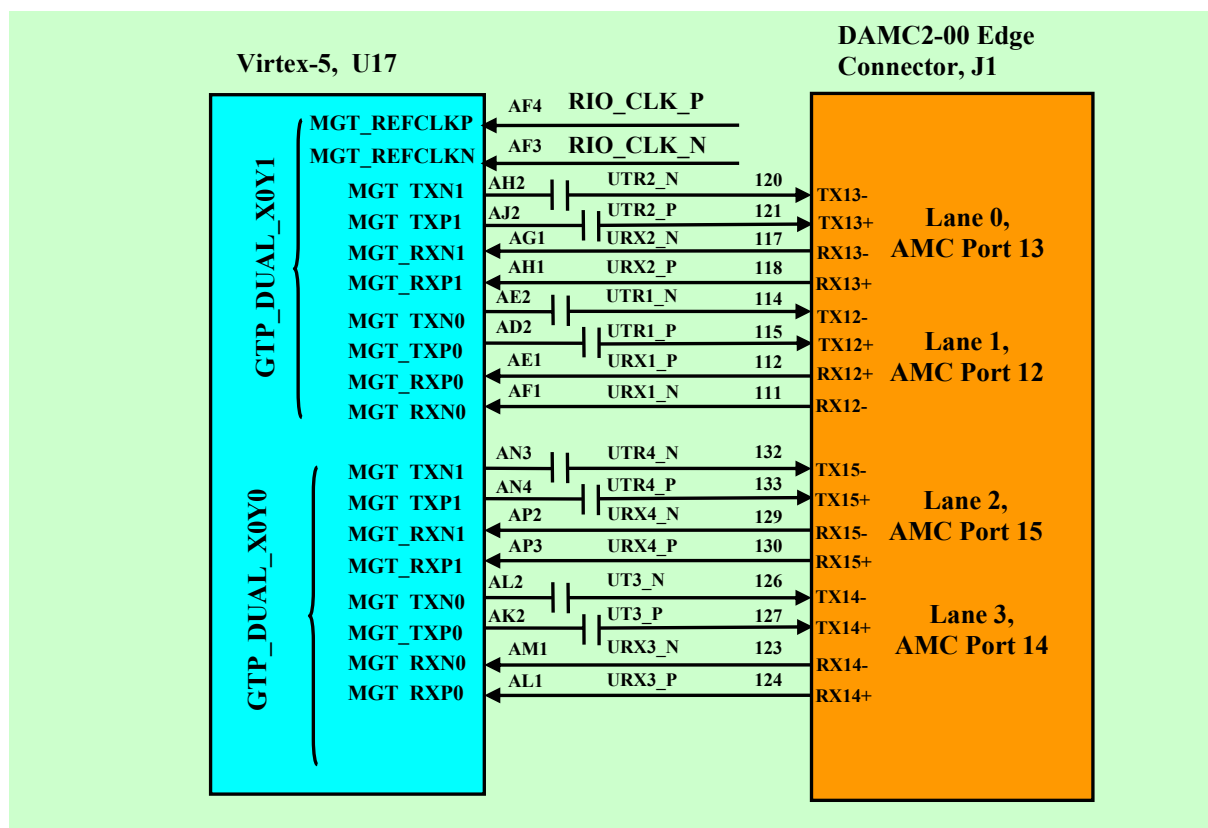

Figure 10 GTP interface to Edge Connector, Ports 12 -15
The four GTP transceivers are connected to Port 12 -15 of edge connectors, Figure 10. These interfaces use the wire-ring topology and will provide high speed connections to neighbours module in xTCA crate. The details usage of these interfaces should be defined latter by xTCA specification and depend from Backplane topology.
Each channel consists of differential pairs of receive (RX) and transmit (TX) signals and operates at a signal-processing bandwidth speed, which supports the PCIe standard of 2.5 Gbps. One of destination for this switch is SFP socket, J7 and second one FMC connector, J8. SFP interface is shown on Figure 10.